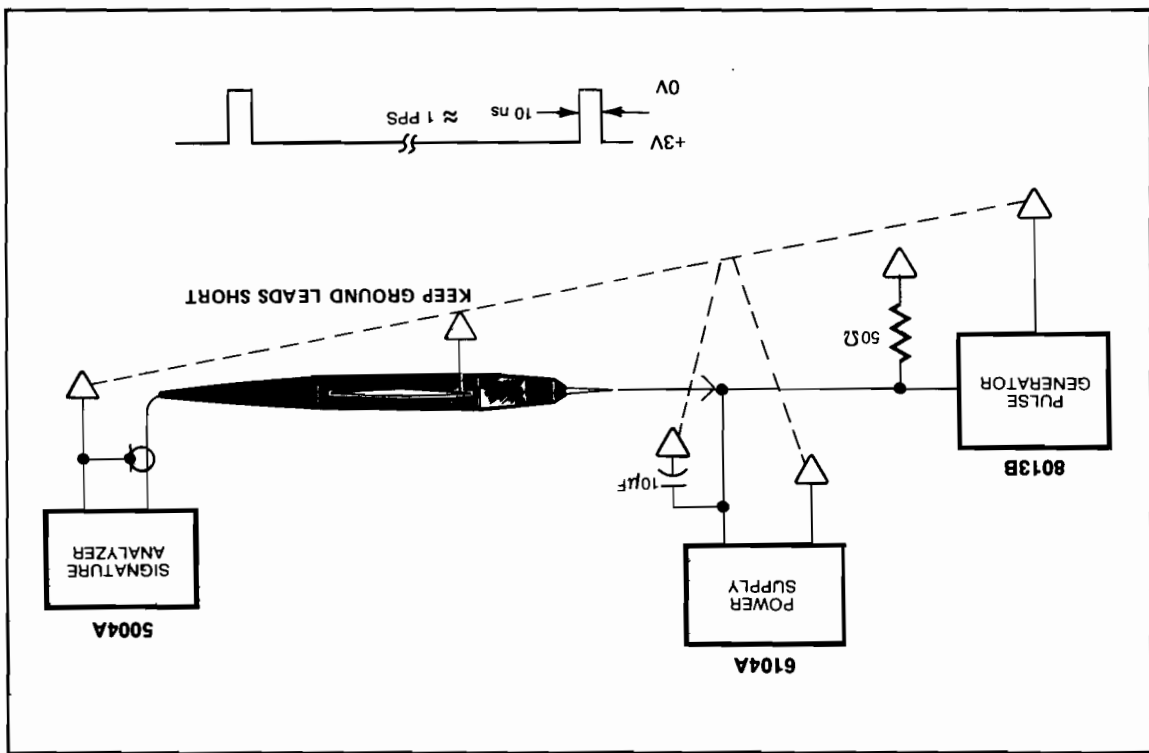

Figure 4-3. Negative Pulse Performance Test Setup
4-9. With test equipment connected as in Figure 4-3, proceed as follows:
- Adjust pulse generator to give waveform at probe tip as shown in Figure 4-3, with a repetition rate of one-pulse-per-second. Probe indicator should flash off approximately once per second.